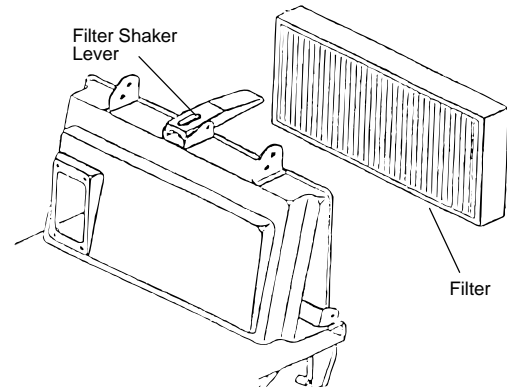

FIG. 3.
1. Press and release the filter shaker lever. The lever operates a rod that will unclog the filter. Repeat this operation 5 or 6 times (Figure 3).
- d. Remove the filter while pressing the filter shaker lever (Figure 3).